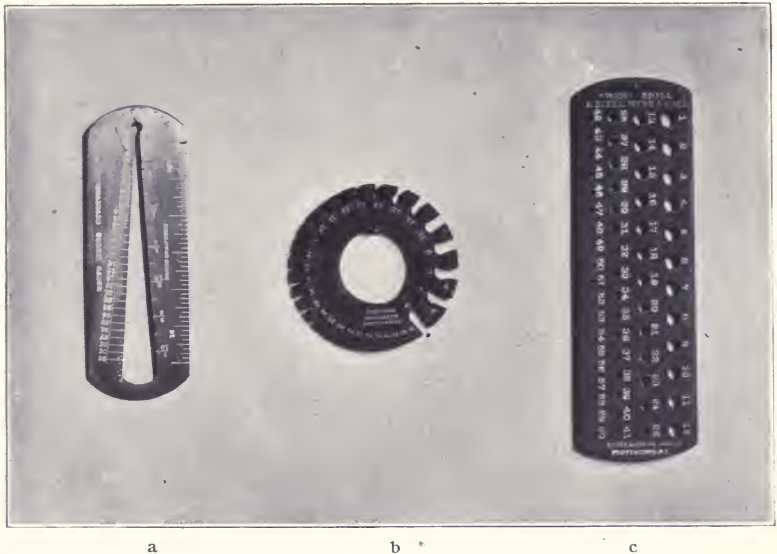

Fig. 220. Screw- and Wire-Gages.
*Screw- and wire-gages*, Fig. 220, are useful in measuring the lengths and sizes of screws and wire when fitting or ordering.
The size of screws is indicated by their length in inches, and by the diameter of the wire from which they are made, using the standard screw-gage, Fig. 220, p. 117. They vary in size from No. 0 (less than  $1/16''$ ) to No. 30 (more than  $7/16''$ ) in diameter, and in length from  $1/4''$  to 6".